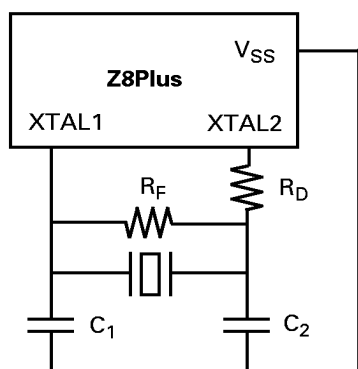
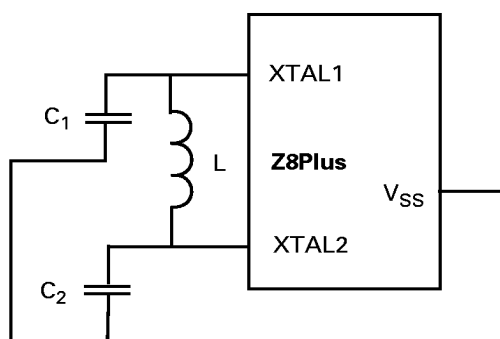
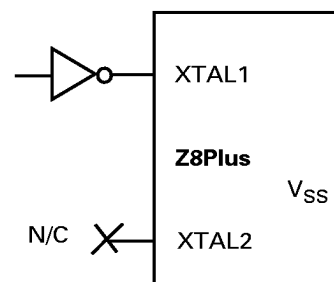

Figure 16. Crystal/Ceramic Resonator Oscillator
Figure 17. LC Clock
Figure 18. External Clock
Crystals and ceramic resonators (Figure 16) should exhibit the following characteristics to ensure proper oscillation:
Depending on the operation frequency, the oscillator may require additional capacitors, C₁ and C₂, as illustrated in Figure 16 and Figure 17. The capacitance values are dependent on the manufacturer's crystal specifications.
Figure 16, Figure 17, and Figure 18 recommend that the load capacitor ground trace connect directly to the V_{SS} (GND) pin of the Z8Plus. This requirement assures that no system noise is injected into the Z8Plus clock. This trace should not be shared with any other components except at the V_{SS} pin of the Z8Plus.
The Z8Plus oscillator can use an inductor capacitor oscillator (LC) network to generate an XTAL clock (Figure 17).